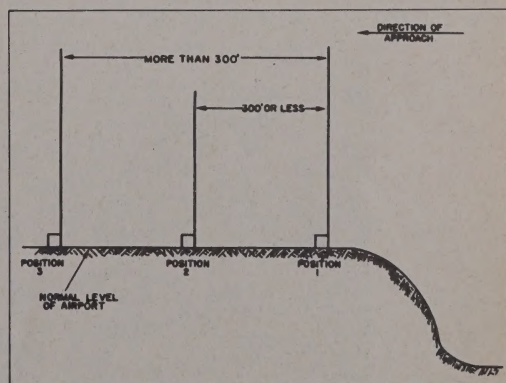

Figure 2-5. Radio Set AN/CRN-2—Profile View of Ground Selection Site
(2) Figure 2-5 shows a profile view of Radio Set AN/CRN-2 set up at three positions. The following table describes what may be expected under conditions shown: